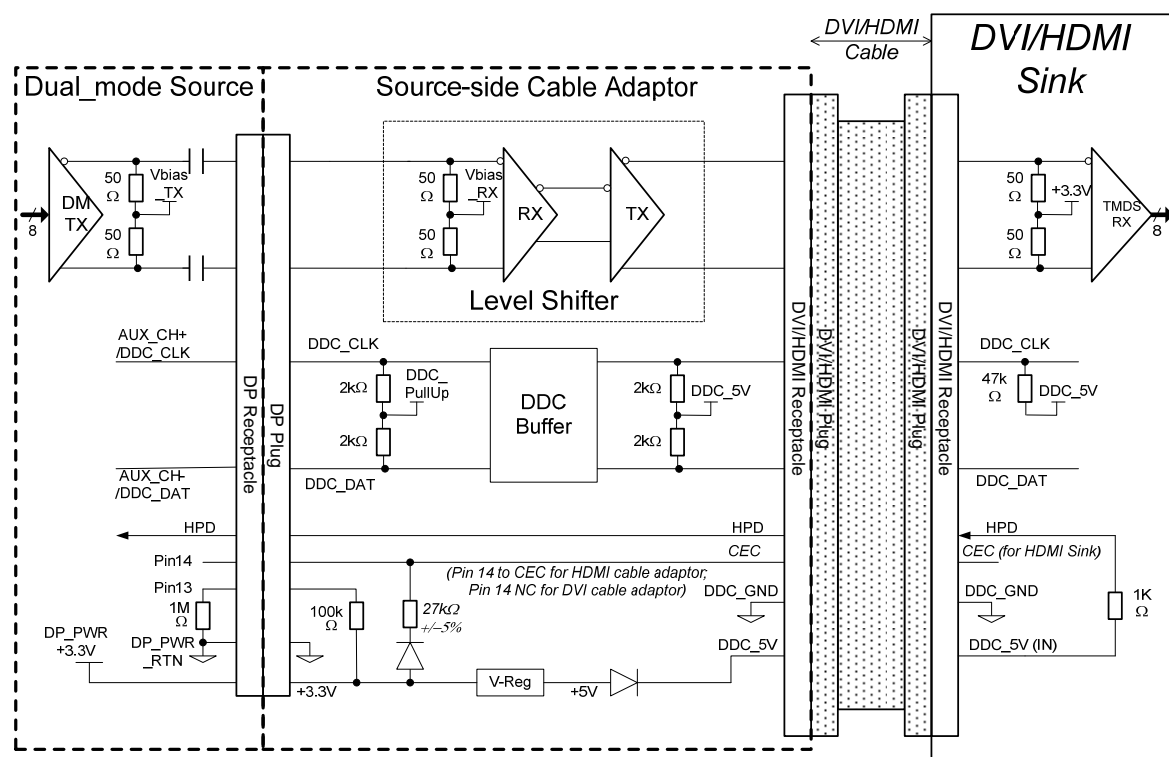
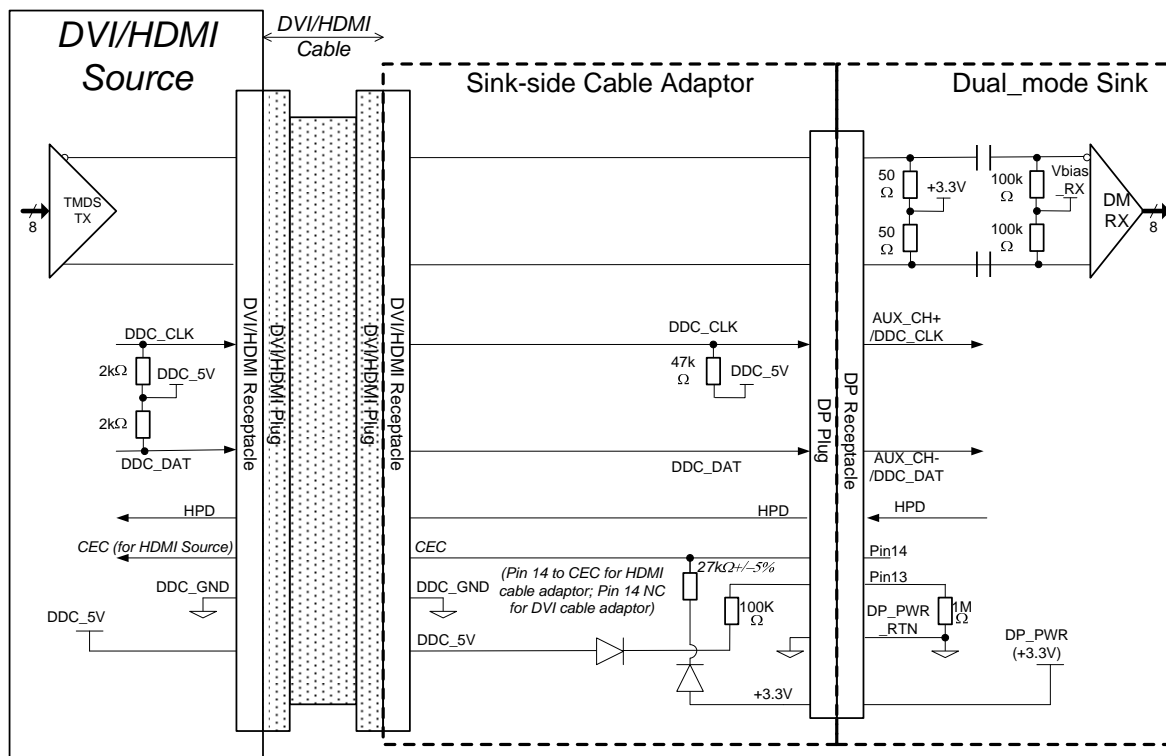
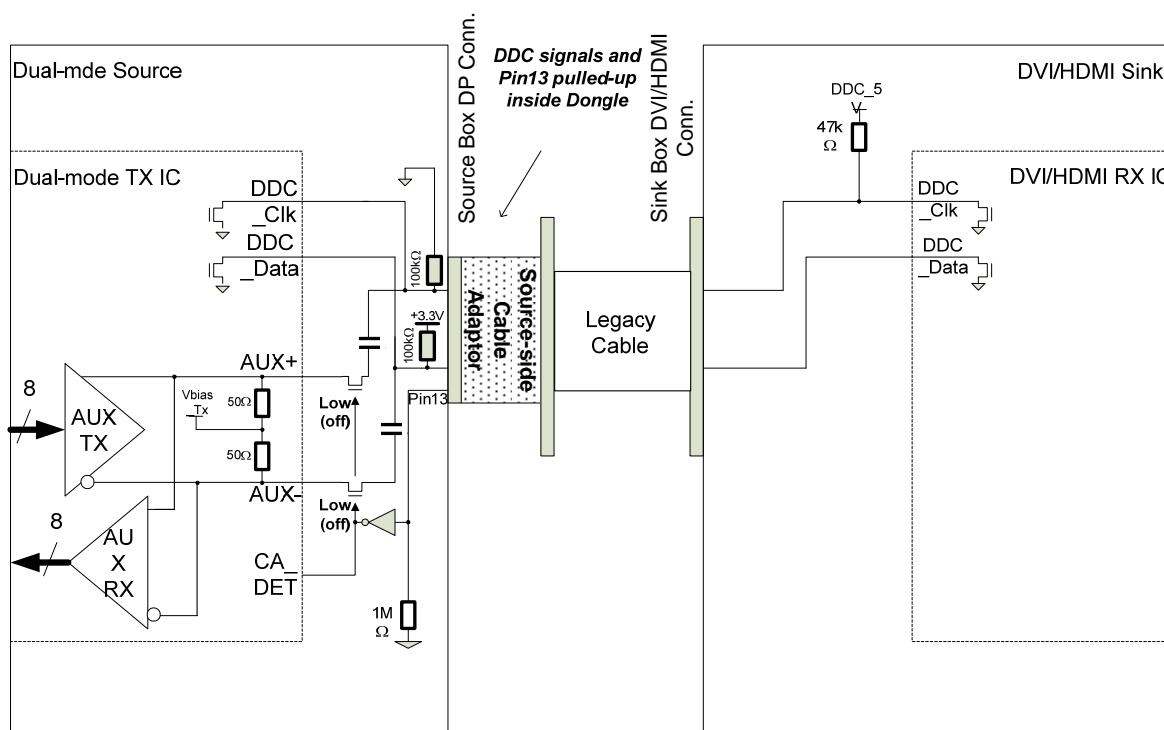

Figure 5-1: A Source-side Cable Adaptor Plugged to a Dual-mode Source Device
Figure 5-2: A Sink-side Cable Adaptor Plugged to a Dual-mode Sink Device
Figure 5-3: DisplayPort to DVI 1.0/HDMI Sink Device DDC Mapping
- Figure 5-1, “A Source-side Cable Adaptor Plugged to a Dual-mode Source Device”, updated
Figure 5-1 shows a Source-side cable adaptor plugged to a Dual-mode Source Device.
For a DDC transaction, a Dual-mode Device must isolate the AC-coupling capacitors of the AUX CH signal lines from the DDC signals lines, regardless of whether Pin 13 voltage level is monitored or not. Figure 5-3 and Figure 5-4 show an example of how this isolation can be realized.
As for the DP_PWR voltage, a Dual-mode Source Device must set it to $+3.3\text{V} \pm 10\%$. A cable adaptor generates DDC_5V from this DP_PWR as shown in Figure 5-1.
Figure 5-2 shows a Sink-side cable adaptor plugged to a Dual-mode Sink Device.
The DP_PWR output of a Dual-mode Sink Device is not used in the cable adaptor. DDC5V pin of the DVI 1.0/HDMI receptacle connector is connected to Pin 13 via a diode and a 100 k Ω resistor to pull up the pin as shown in Figure 5-2.
Source and Sink Devices that support both DisplayPort 1.1a and DVI 1.0/HDMI should route the AUX CH and DDC signals as shown in Figure 5-3 and Figure 5-4. A pair of switches is placed on the AUX CH lines in these Dual-mode Source and Sink Devices to control the mapping of the DDC signals. The switches are OFF when a cable adaptor is attached as Pin 13 of DisplayPort connector is pulled up, and are ON when a cable adaptor is not attached as the Pin 13 is pulled down as can be seen in Figure 5-1 and Figure 5-2.
Though it is not shown in Figure 5-3 below, AUX+ must be pulled down to ground via 100k Ω resistor and AUX- pulled up to +3.3V via 100k Ω resistor for Source Device and powered Source Device detection purposes, respectively as in the main DisplayPort Specification.
As can be seen in Figure 5-2, level shifting is done inside the Dual-mode Sink Device. No level shifting is done within the Sink-side cable adaptor.